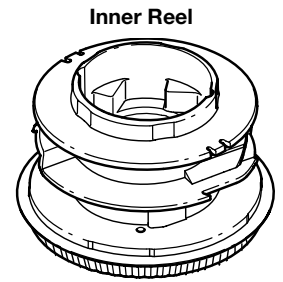

Fig. 24
3. Pull the inner reel with existing line from the outer spool (Fig. 24).
4. Remove any existing line from the inner reel before cleaning. Remove any debris or grass from the knob, spring, inner reel and foam seal. Wash the inner reel with warm soapy water (Fig. 24).